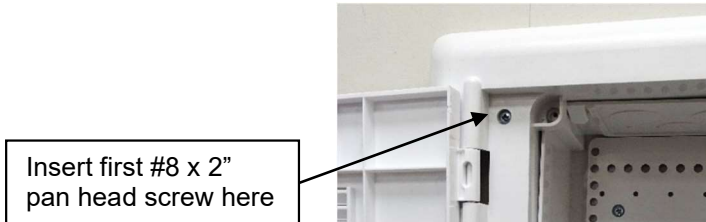

Figure 4
7. After sheet rock is installed, position cover over sheetrock and installed base by aligning the cover's tongue to the groove on the base. Secure cover into stud with #8 x 2" pan head screw (provided) in position 1 (upper left corner) until screw is just snug – do not over tighten. (Figure 4).